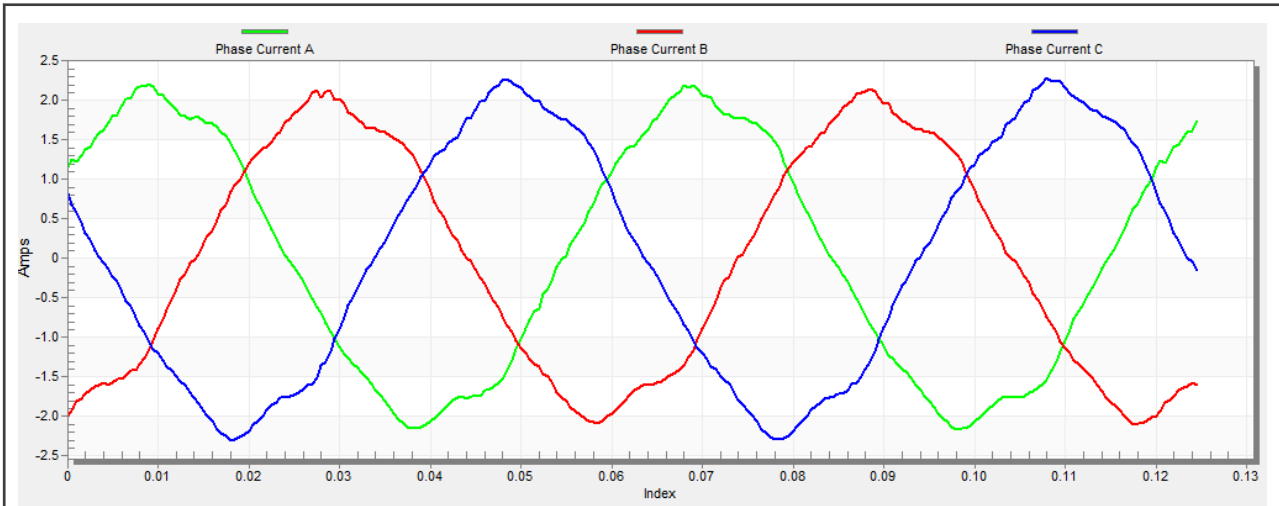

Figure 26. Phase currents
5. The optimal ratio for the V/Hz profile can be found by changing the V/Hz factor directly using the “M1 V/Hz factor” variable. The shape of the motor currents should be close to a sinusoidal shape (Figure 26). Use the following equation for calculation V/Hz factor: